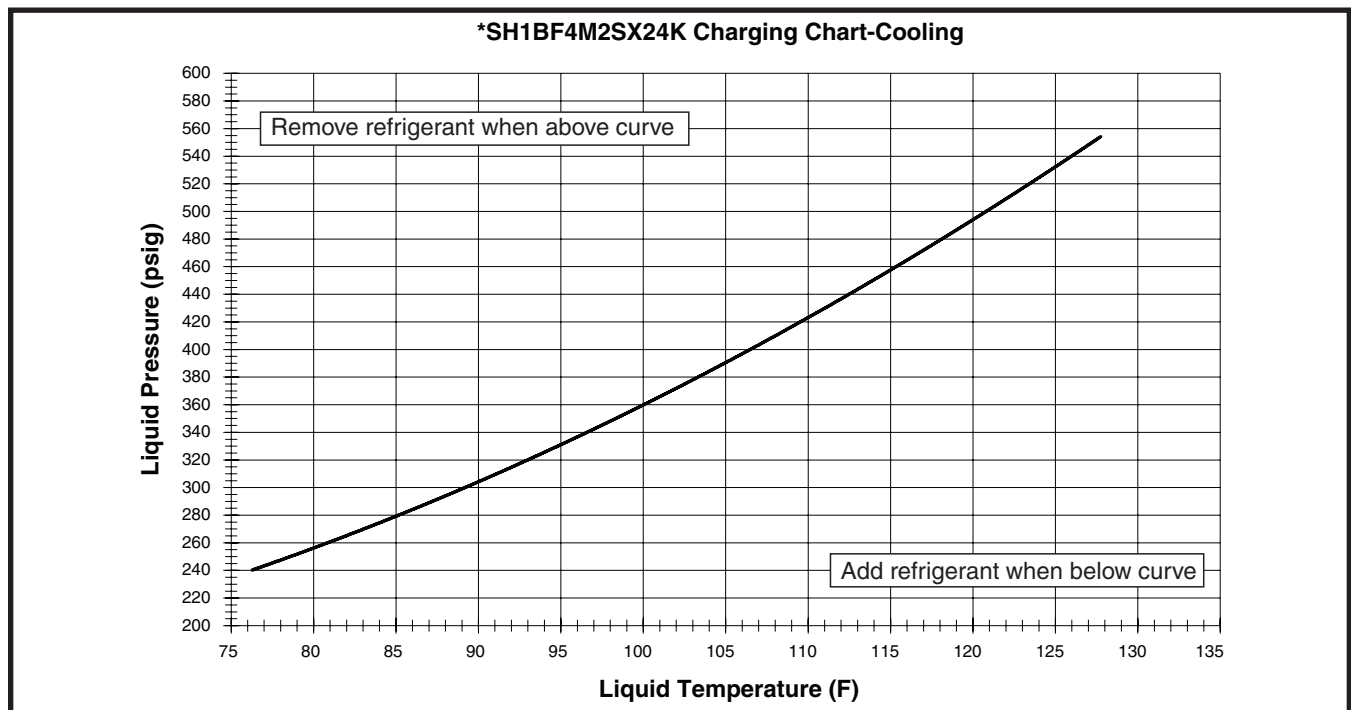
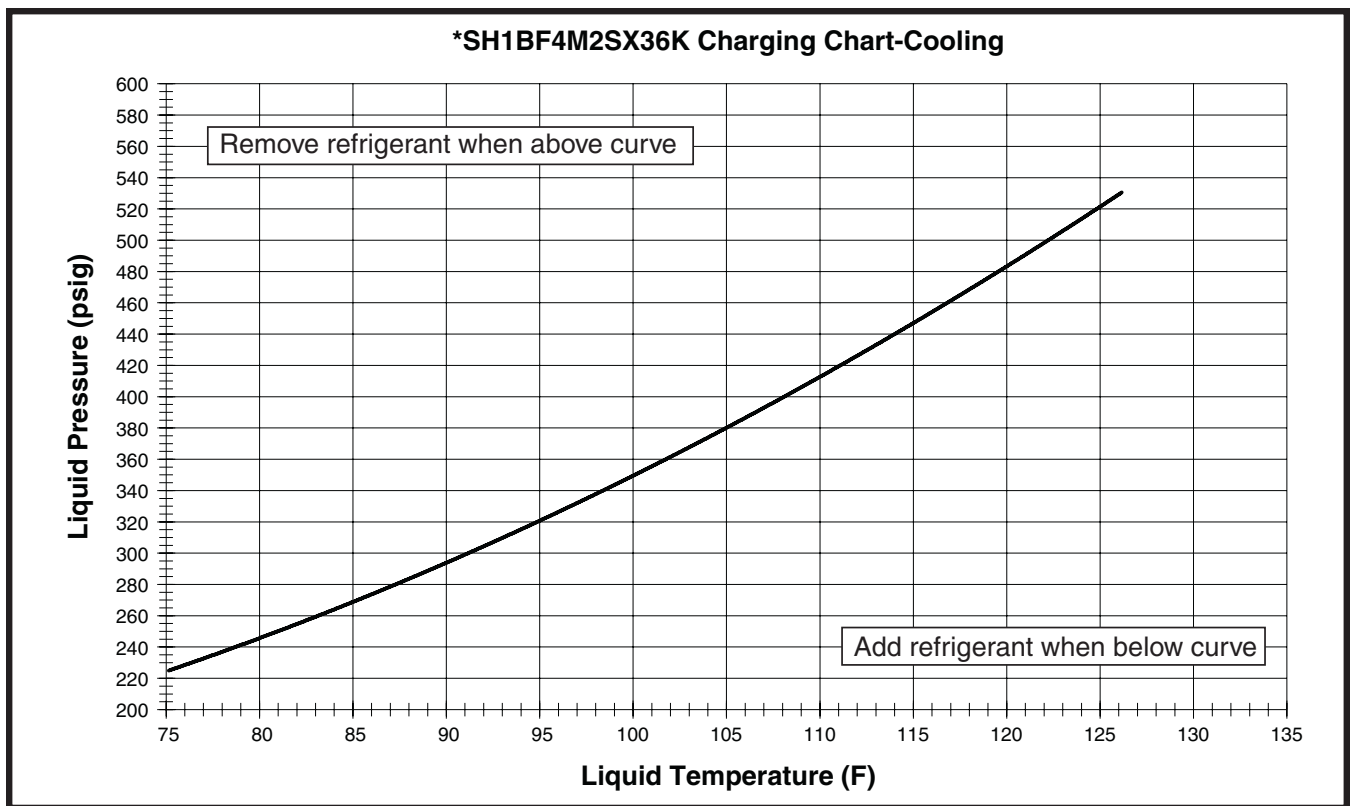

Figure 6. Charging Chart for 2 Ton Units
Figure 7. Charging Chart for 3 Ton Units
3. Determine the required liquid refrigerant pressure. See Figure 6, \(page 10\), Figure 7, \(page 11\), Figure 8, \(page 11\) & Figure 9, \(page 12\).
- Cooling mode charging charts are applicable only to matched assemblies of this equipment and listed airflows for the indoor coil. Outdoor units with non-AHRI listed indoor coils are not recommended and deviations from rated airflow or non-listed combinations may require modification to the expansion device and refrigerant charging procedures for proper and efficient system operation. Refer to Figure 6, (page 10), Figure 7, (page 11), Figure 8, (page 11) & Figure 9, (page 12) for correct system charging.
- As shown in Figure 6, Figure 7, Figure 8 & Figure 9 the ideal system sub-cooling can vary over the range of operation. Reference the charts to determine the ideal amount of sub-cooling for a given liquid pressure. Units charged to other values will not perform at the rated unit efficiency (EER) or rated Coefficient of Performance (COP) in heating mode.